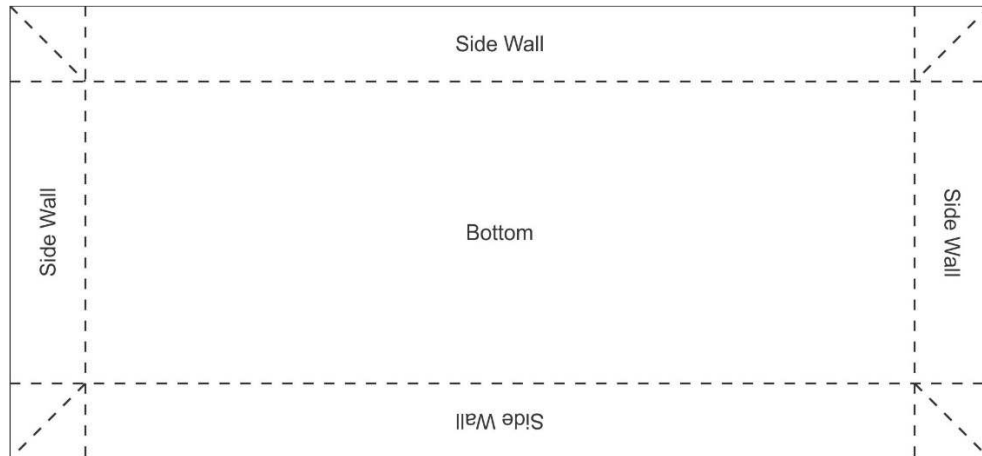

Figure 20
22. There are a few different techniques for folding a liner around the corners. The most common method is to take each corner and crease it inward (along the diagonal lines shown in Figure 20), then fold it against the end wall of the frame. Two clips should be used to secure it into place. If you are not familiar with folding the liner, we recommend practicing on a piece of paper and make a small “tray” with it.